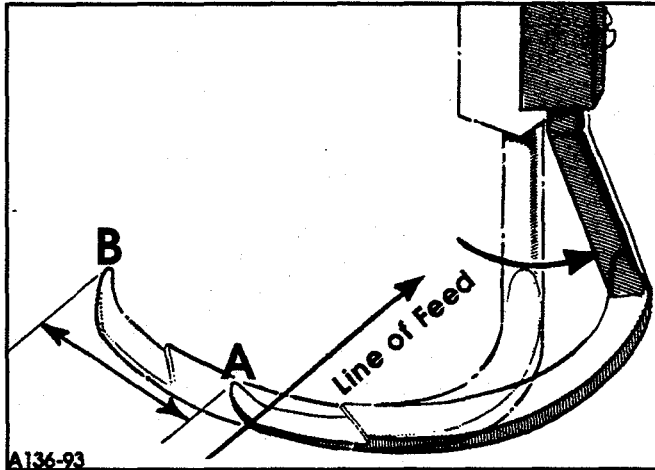

FIG. 16
Set the arc travel of the spreader point (A, Fig. 16) to point (B) as listed in Table III, by loosening nut